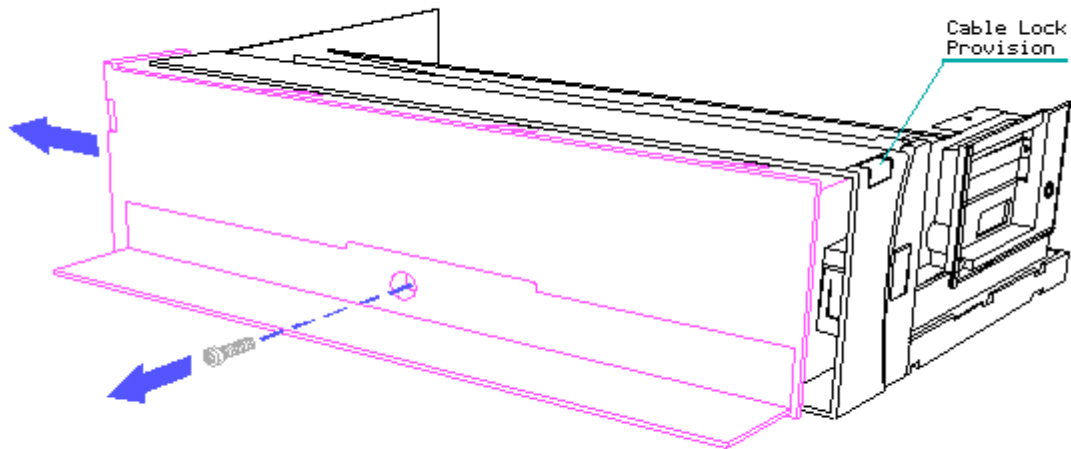

Figure 5-16. Removing the Base Panel
1. Push in the cable lock provision (Figure 5-16).
2. Position the computer on the rear panel (Figure 5-16).
3. Using a Torx T-15 screwdriver, remove the screw from the base panel (Figure 5-16).
4. Remove the base panel by sliding it out toward the diskette drive side of the computer (Figure 5-16).